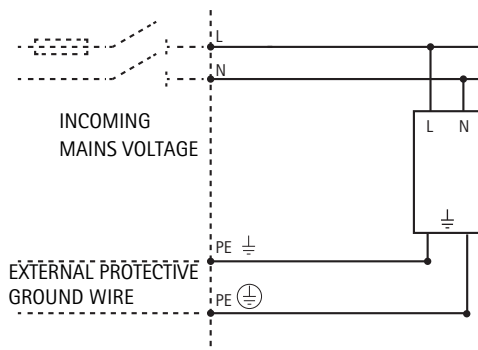

Fig 4
**International version only.** See Fig 4.